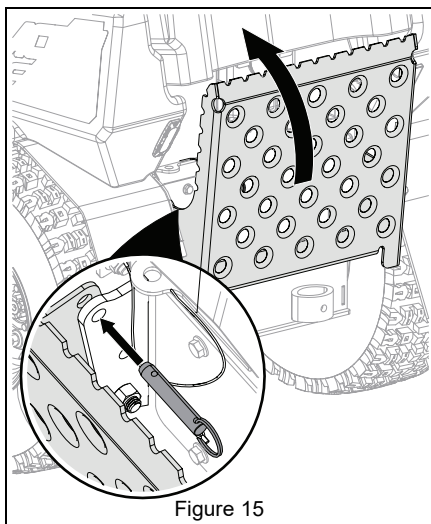

Figure 15
2. Rotate platform up and insert lock pin. See Figure 15.